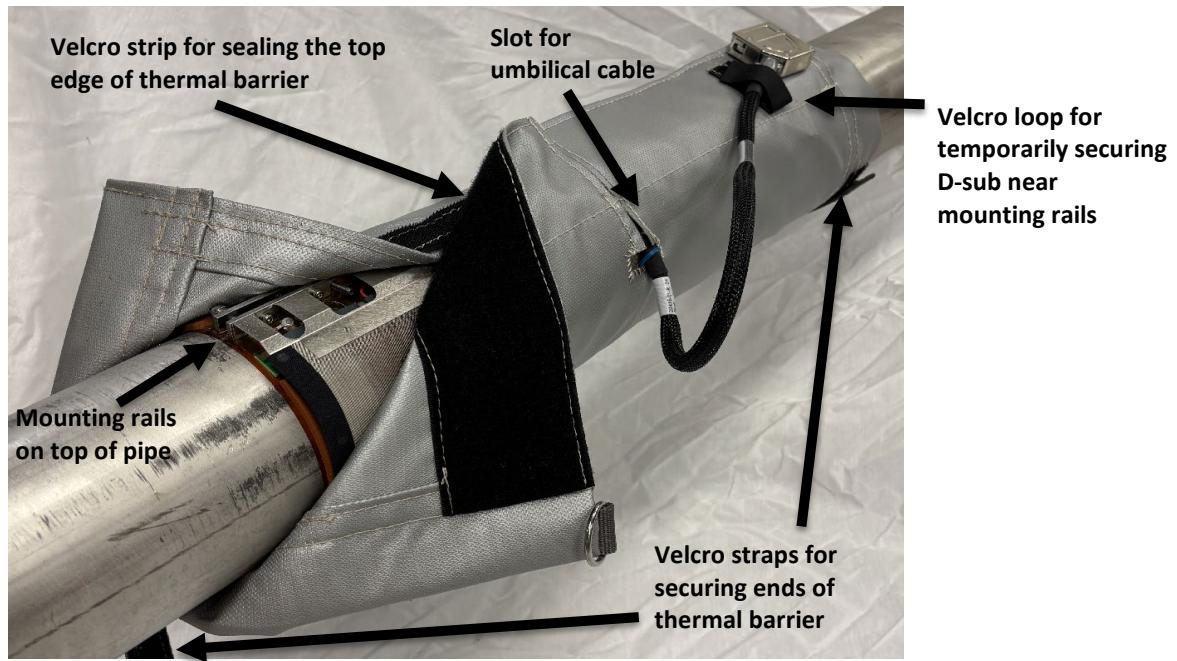
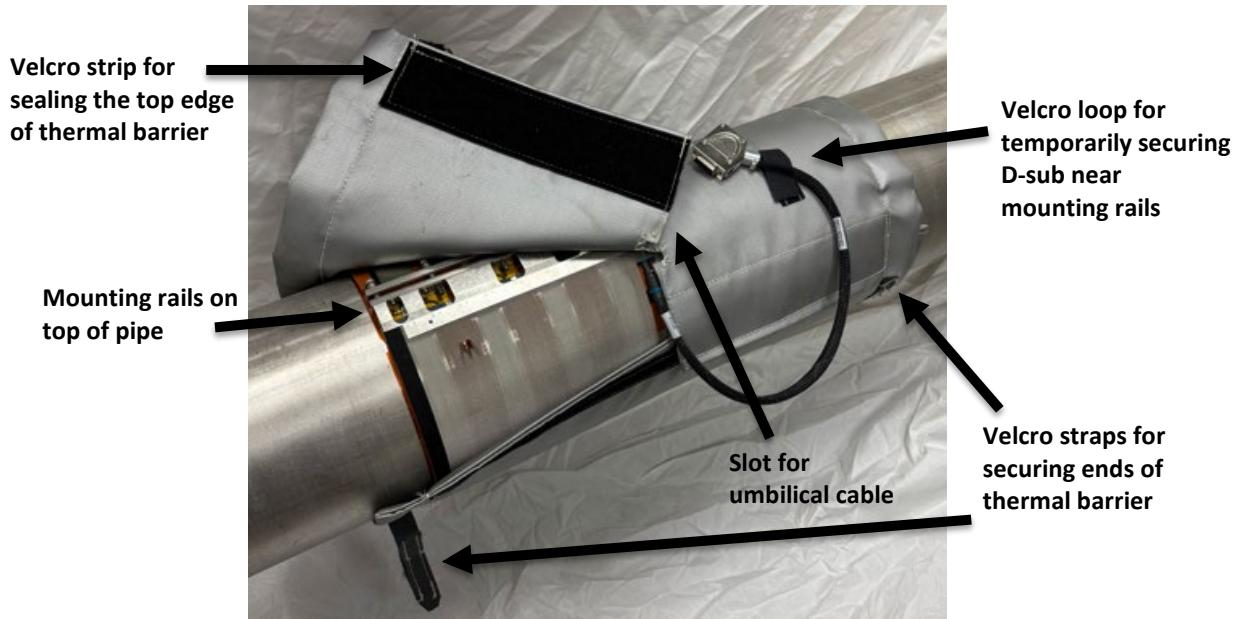

Figure 2-12: Thermal Barrier Installation over BAND - <6" and Dual-BANDs
Figure 2-13: Thermal Barrier Installation over BAND - 6" to 30"
1. Align the slot(s) on the thermal barrier with the BAND umbilical cable(s) per *Figure 2-12* or *Figure 2-13*, below, according to the pipe size.